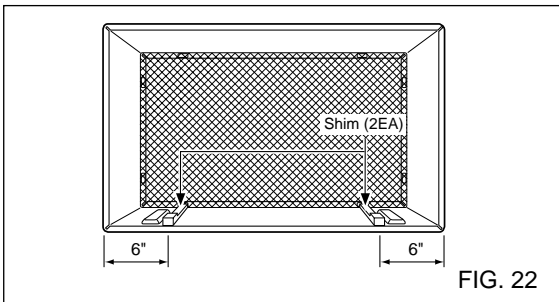

FIG. 22
- 7** Remove the backing from the 13" shim strips and attach them as shown below in Fig. 22. The higher portion of shim is to be placed in front of the rib on the base of wall sleeve.